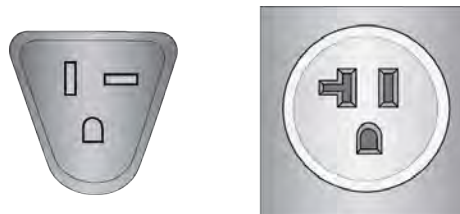

Figure 23. NEMA 5-20P Plug and Receptacle
- ❑ The power cord included with the SBxPWRSYS2 (AC) Power Supply for 100-120VAC installations have 20 Amp, 125 V NEMA 5-20P plugs that require NEMA 5-20R receptacles. Refer to Figure 23.